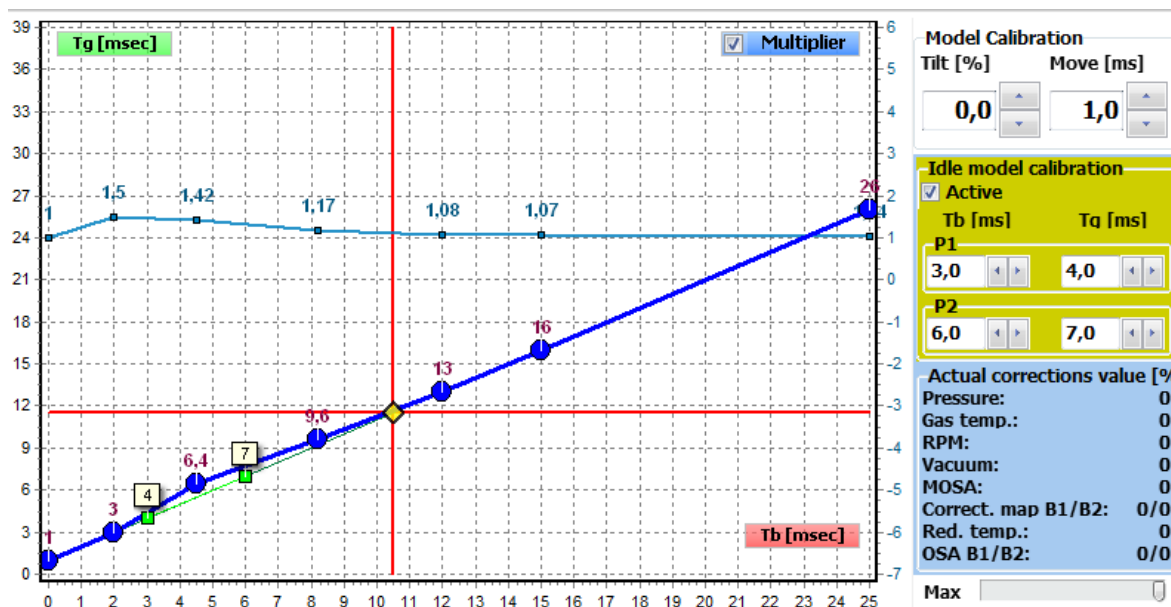

Fig. 3.32 Idle model on Model chart.
- **Idle model calibration** - enables using additional model for the idle work. This model is represented by points P1 and P2 (**Fig. 3.32**). Thanks to that, idle work can be richer or leaner than it would be with normal model. P1 and P2 coordinates are calculated during autocalibration, but may be also set manually.